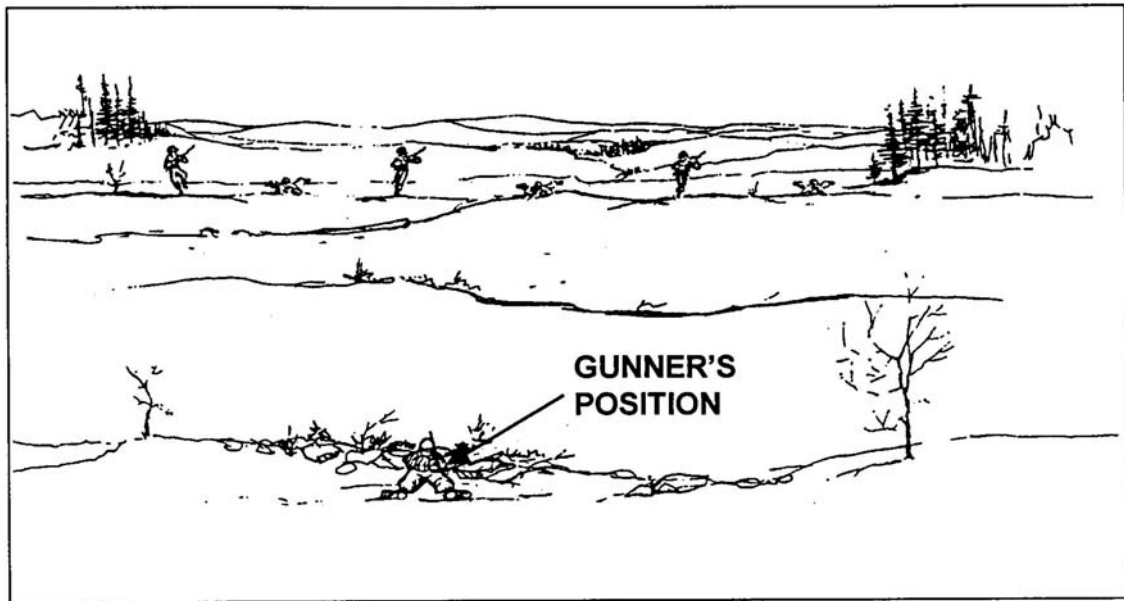

Figure 10. Linear target and one gun.
- (2) Linear target. Initially aim at the midpoint of the target. Traverse fire to one flank and then to the other to cover the entire target (Figure 10).